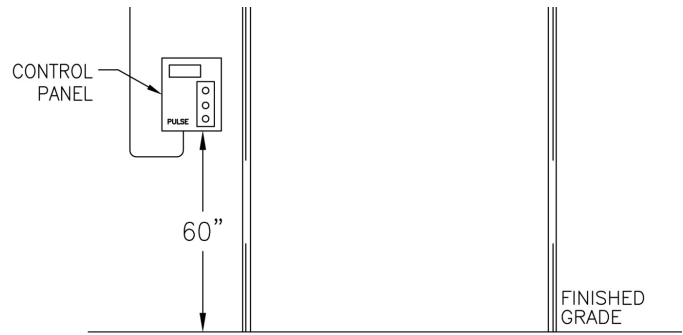

FIGURE: 8
The control panel should be securely mounted at or around eye level (minimum 5 ft. from floor) on the same side as the operator/junction box. Ensure that the control panel is mounted far enough away from the door as to avoid user contact with the door while in operation, but close enough that the user has clear view of the door at all times. Four (4) control mounting brackets are provided to facilitate mounting. See Fig: 8